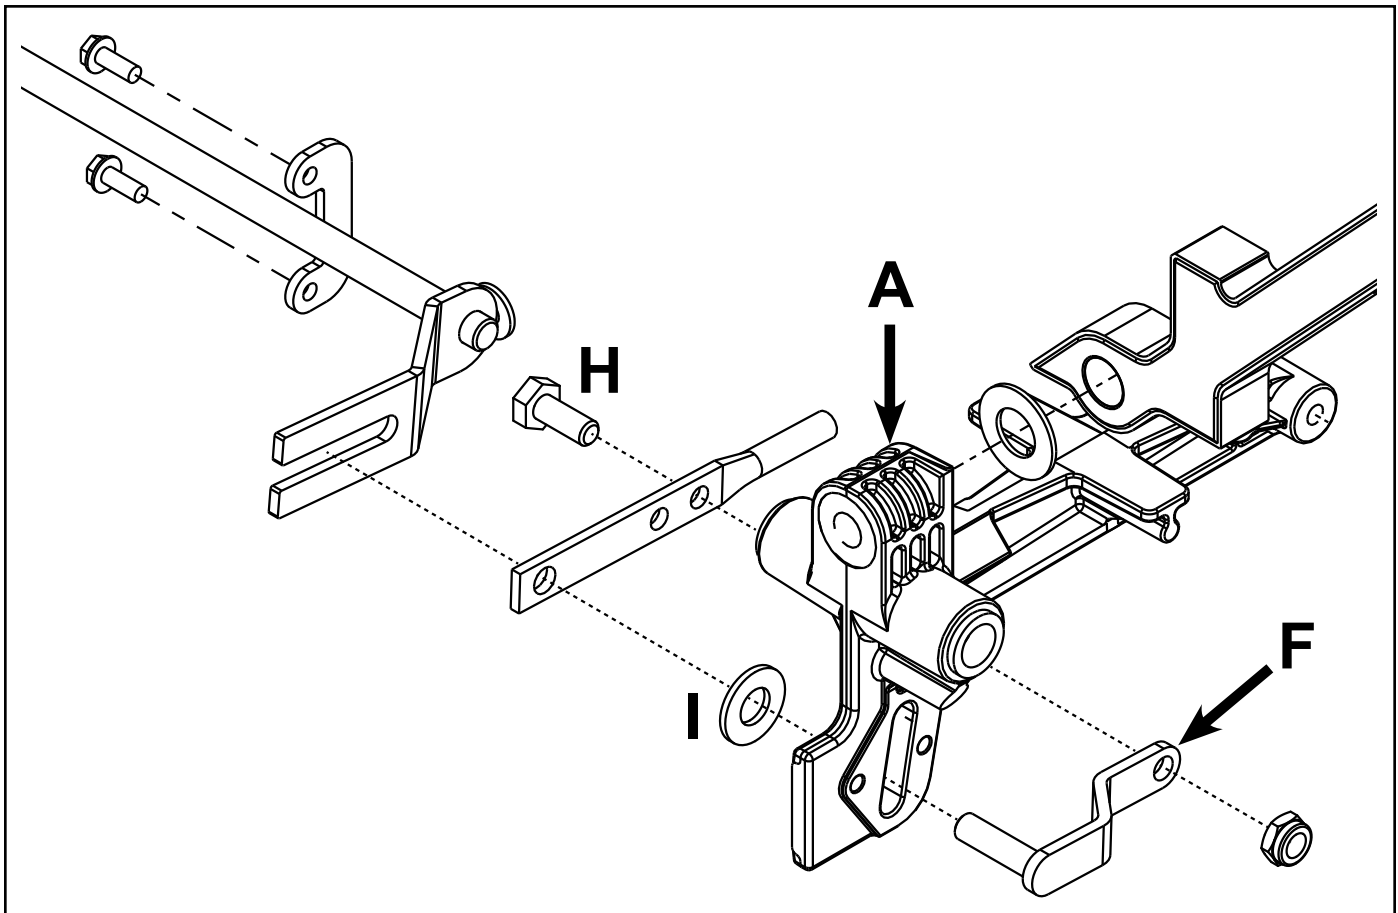

Fig. 018
2. Install the (6) fasteners securing the control box assembly (G) to the frame and torque to specification:
4. Install the fasteners (H) and nylon washer (I) securing the hydro rod pin (F) to the actuator arm assembly (A). Torque fasteners to specification - 8 ft-lbs. (11 Nm). Be sure the nylon washer (I) is installed in-between the actuator arm assembly (A) and the hydro control rod as shown (Fig. 018) (only LH side shown).
6. Install the (2) bolts that secure the LH and RH motion control dampers (E) to the actuator arms (A) and torque to specification - 7.5 ft-lbs. (10 Nm).
10. Install RH and LH control handles (D) and torque the fasteners to specification - 30 ft-lbs. (40 Nm).
- H. Hydro rod fastener (Fig. 018)
- I. Nylon washer (Fig. 018)